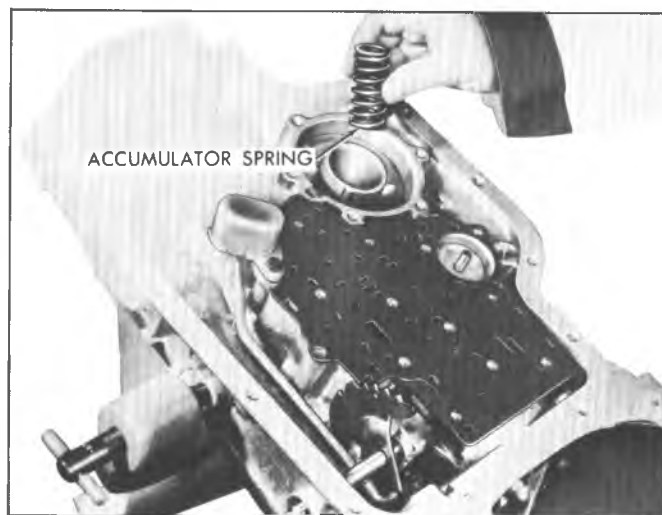

Fig. 147T--Installing Rear Accumulator Spring
2. Install rear accumulator spring into case (fig. 147T).